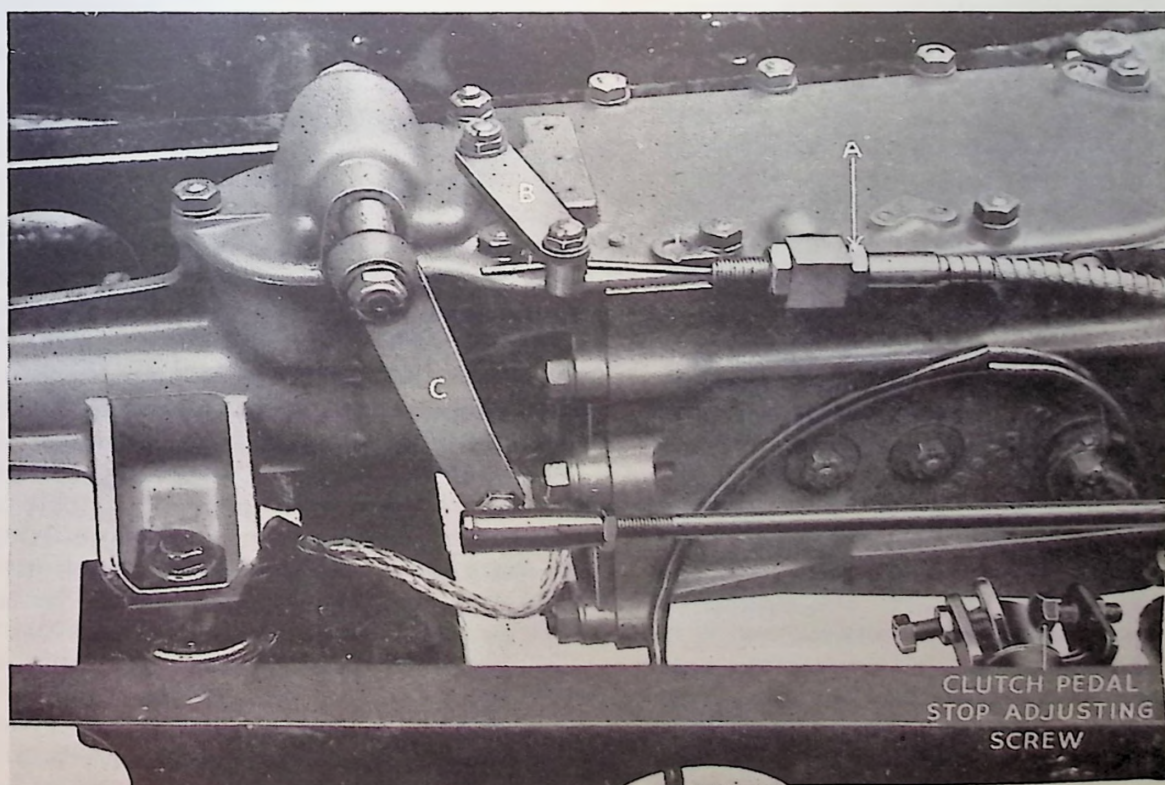

Fig. 6. Arrangement of Gear Change Speed Levers when connecting controls.
- (4) Remove the metal cowling over the gearbox and the floorboards. The securing set pins have captive nuts.
- (5) Disconnect the operating control cable by releasing the set pin securing it to the lever on the gearbox. Remove the rear nut securing the cable cover to the support bracket, and withdraw the cable control. (See Fig. 6, page C11).
- (6) Disconnect the change speed control rod from its lever on the side of the gearbox by removing the nut securing the joint.
- (7) Detach the clutch pull-off spring from the crankcase and disconnect the clutch control rod by removing the clevis pin from the clutch pedal joint.
- (8) Disconnect the speedometer drive at the gearbox end.
- (9) Disconnect the earth wire from the gearbox.
- (10) Remove the two bolts securing the gearbox rear support bracket to the flexible mounting on the chassis frame.
- (11) Disconnect the propeller shaft from the gearbox driving flange. There are four tab washers, bolts and nuts.
- (12) Draw out the gearbox rear driving flange to the full extent and remove the bolts from the flange. Push back the flange to its full extent.
- (13) Remove the two bottom nuts of the six securing the gearbox to the clutch housing.
- (14) Place a jack under the rear end of the engine sump, and to help disperse the load, place between the jack and sump a block of wood shaped to cradle the sump.
- (15) Open the bonnet and remove the two nuts and shakeproof washers securing the engine torque reaction bracket to the crankcase on the offside and adjacent to the flywheel. Disconnect the choke and throttle controls.
- (1) See that the forward nut (A), Fig. 6, on the gearbox end of the control cable assembly is screwed right down. Pass the cable and the threaded end of the outer casing through the cable support, fit the second nut, and tighten securely.
- (2) Thread the inner cable through the swivel pin on the operating lever (B), Fig. 6, push the lever fully forward, place